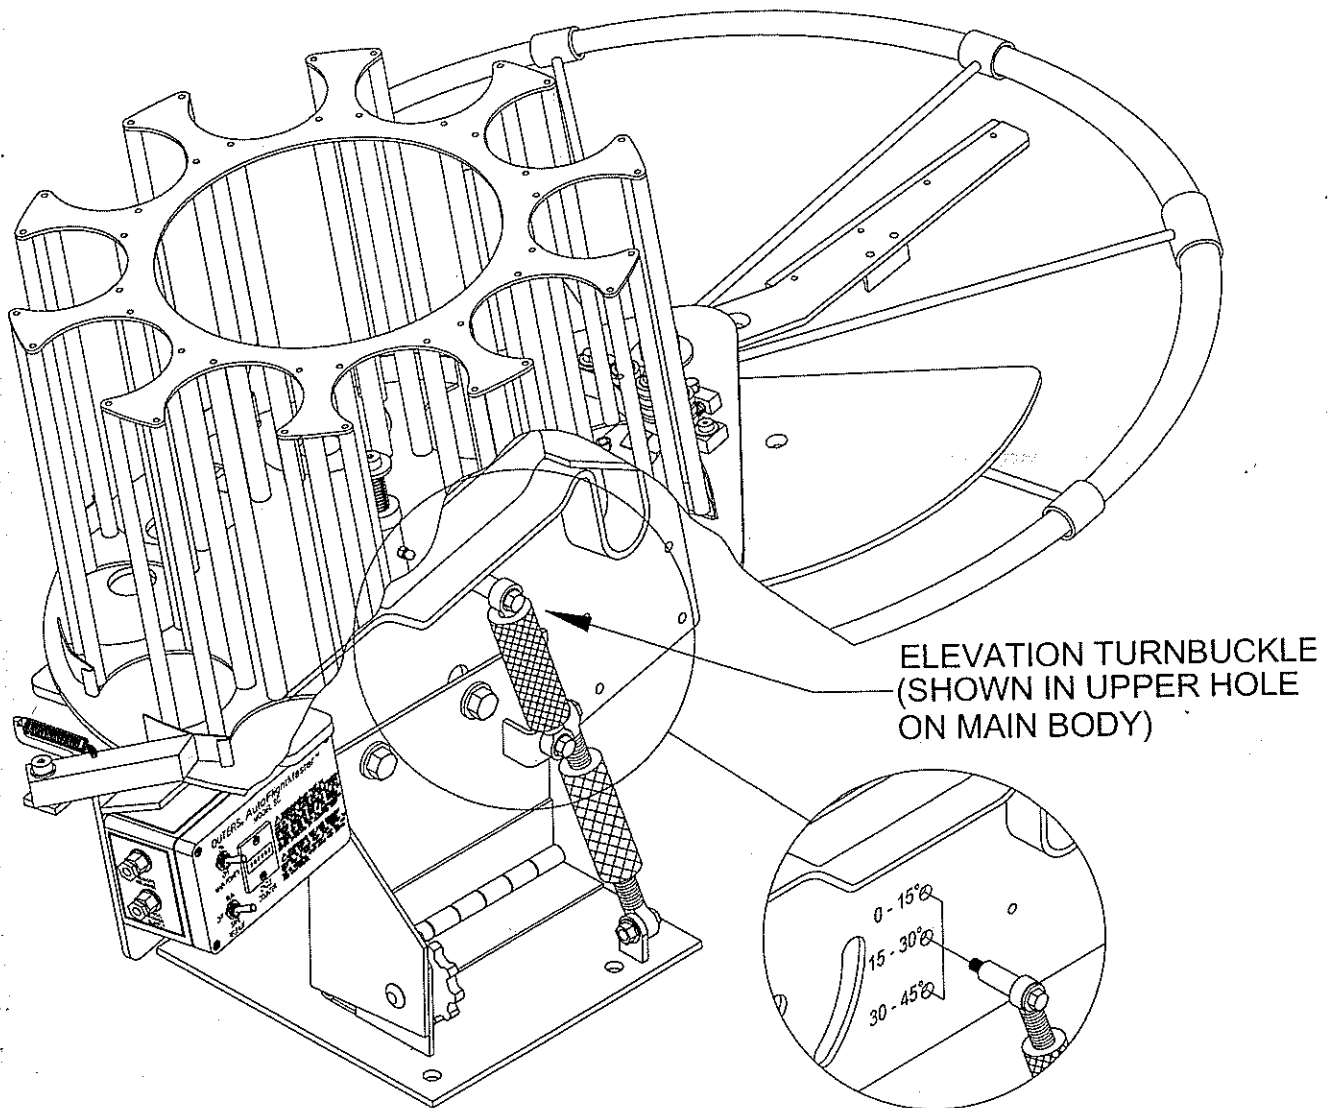

FIGURE 11 - ELEVATION ADJUSTMENT
2. There are two adjustments to change the elevation of the trap. (see figure 11)